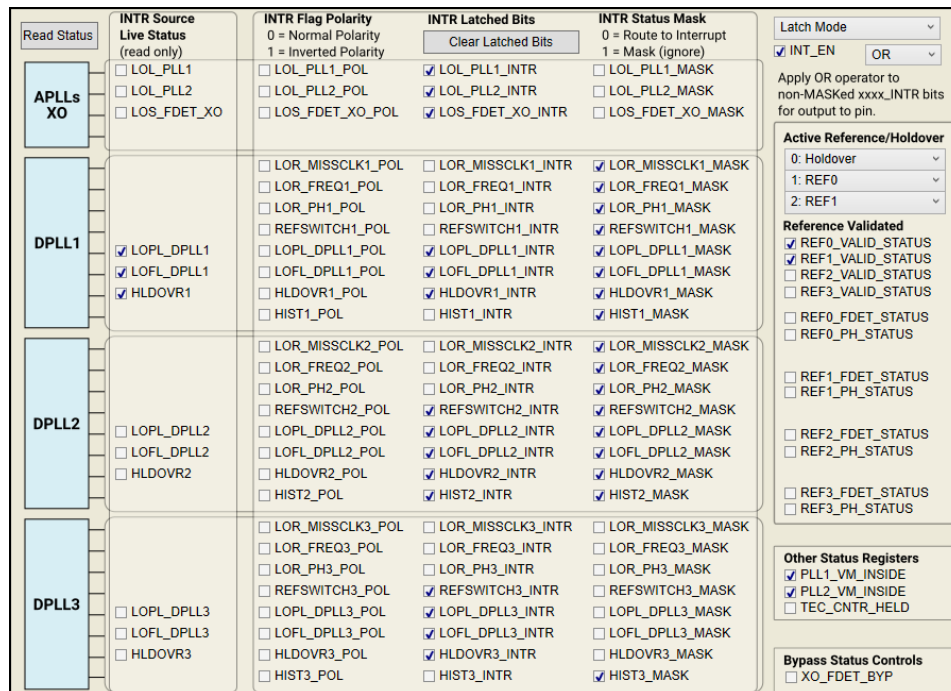

Figure 2-2. Read Status Bits
4. Check LMK5C33414A Status as shown in Figure 2-2.